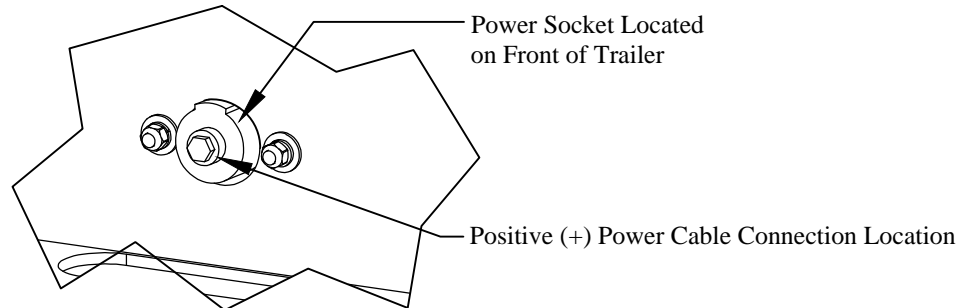

Figure 11: Backside view of power socket.
- Install** the provided copper lug and heat shrink on the power cable and **Connect** it to the terminal on the power socket (Figure 11).